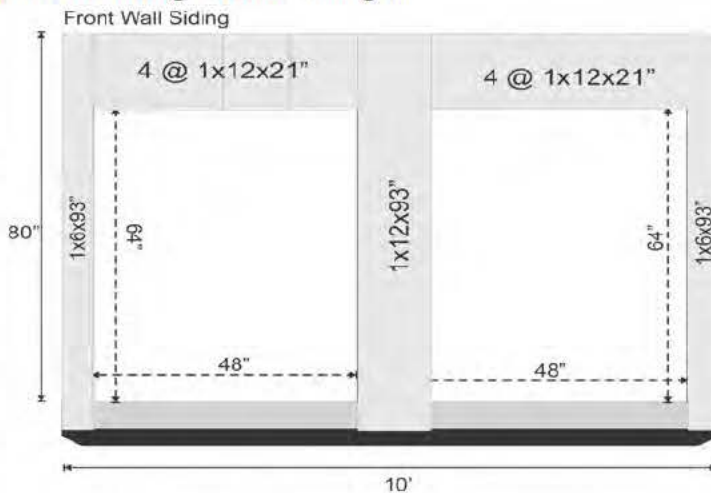

Figure 4-Front Wall Siding
Step 5. Install front wall siding. Allow siding to stick above the top plate a maximum of 3" on the front wall only. The rafters will butt against the siding. The front 10' long wall is made up of 11 boards. See Figure 4 for correct placement. Nail off every 6" around doors.